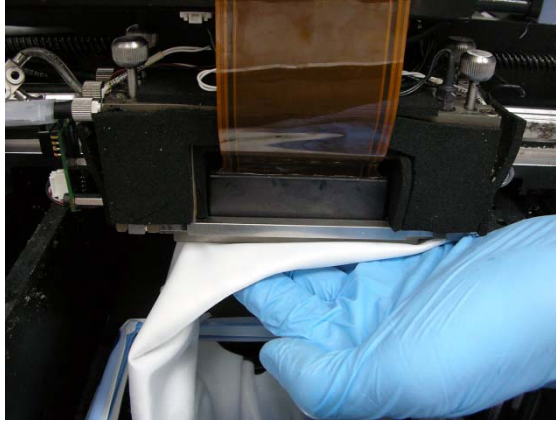

Figure 7-16: Cleaning the heads
9. Clean the orifice plates, with a back-and-forth motion (see figure 7-16). Use the mirror to make sure that you have removed all of the residue material.